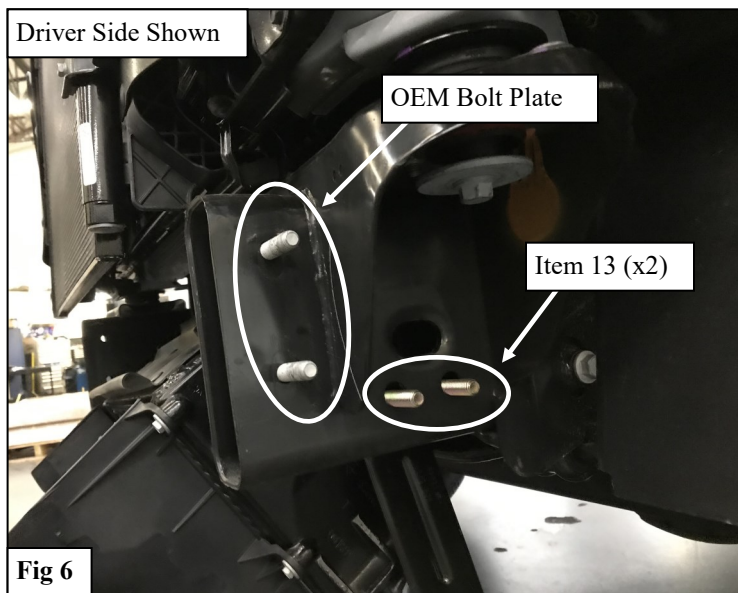

Fig 6
8. Pre-install the factory bolt plates along with the supplied M12 Hardware into both frame ends. See **Figure 6**.